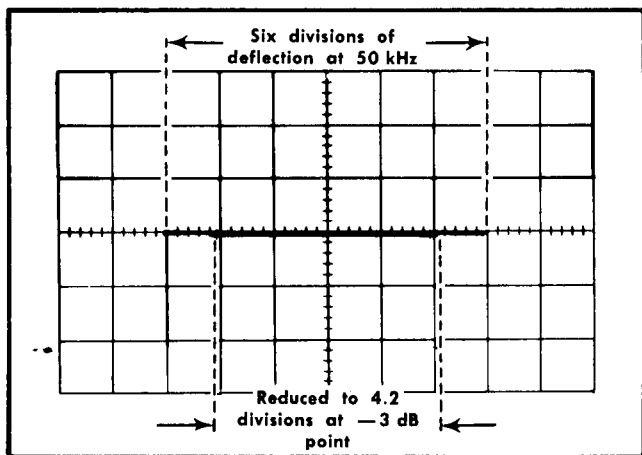

Fig. 6-53. Typical CRT display when checking external horizontal bandwidth (double exposure).
- Without changing the output amplitude, increase the output frequency of the generator until the horizontal deflection is reduced to 4.2 divisions (-3 dB point; see Fig. 6-53).